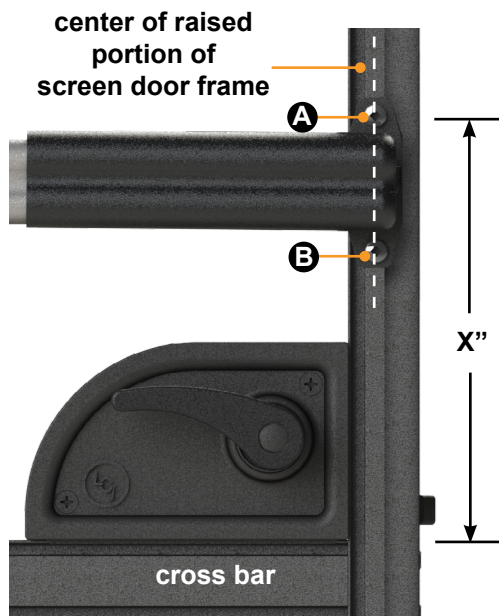

Fig.27
2. Measure from the top of the crossbar to the top hole in the mount bracket on each side of the push bar (Fig.27, Fig.28). Ensure the measurements are identical on both sides so that the bar is installed level to the door.
3. Mark the location of the top holes in the center of the raised portion of the screen door frame (Fig.27, Fig.28).